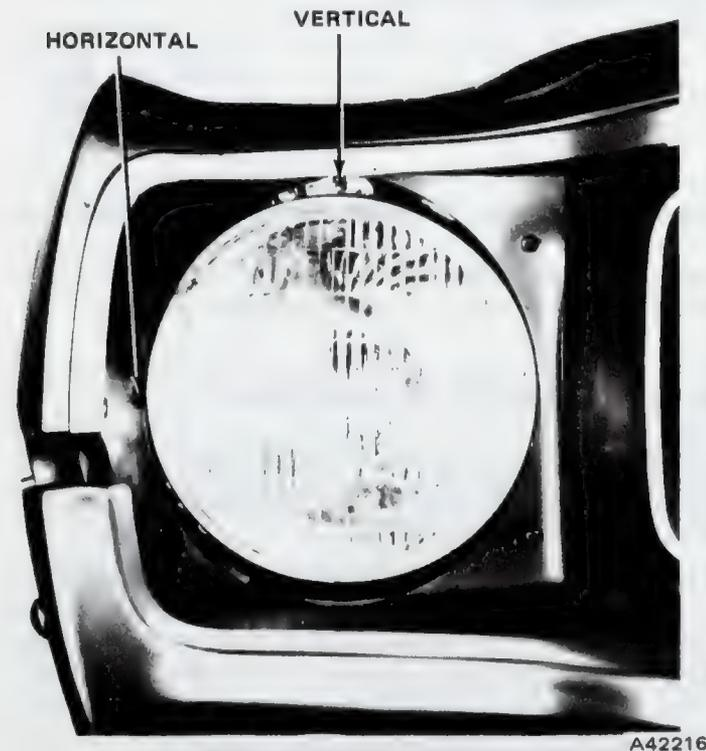

Fig. 3R-1 Headlamp Adjustment—Typical
(3) Measure horizontal distance between lamp centers.
(4) Position dark colored tape at half this distance, to right of marked centerline, in a vertical position on screen. Place another tape vertically to left of centerline a similar distance.
(5) Measure distance from center of each lamp to surface on which car rests. Mark same height measurement on screen using a piece of tape to form a cross on screen with tape positioned in step above. Turn headlamps on low beam and cover one lamp.
(6) Turn vertical aiming screw, located at top position of lamp housing (fig. 3R-1), counterclockwise until beam has been considerably lowered. Then turn screw clockwise until top edge of high intensity portion of lower beam is even with horizontal line.
(7) Turn horizontal aiming screw, located at side of lamp housing (fig. 3R-1), counterclockwise then clockwise, until left edge of high intensity area at lower beam is 2 inches to right of lamp centerline.